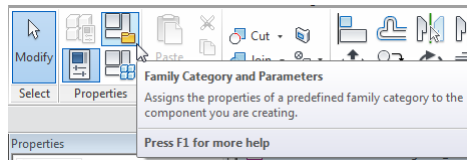

Figure 28
2. Directly above the Family Types button click the **Family Category and Parameters** button (see Figure 28).